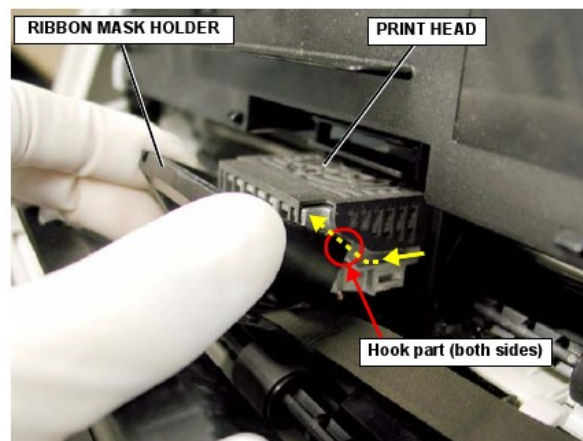

Figure 4-4. Remove the RIBBON MASK HOLDER
6. Slide the 2 hooks of the RIBBON MASK HOLDER toward the front through the channels in the PRINT HEAD and remove the RIBBON MASK HOLDER. (Refer to Figure 4-4.)